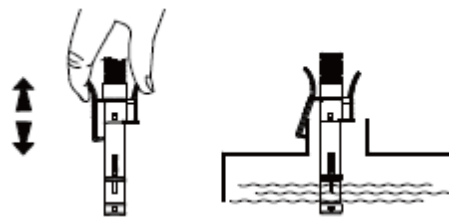

Figure 1
3. Attach the discharge hose to your receiving tank using the clip. Make sure the discharge nozzle is in a vertical position as per Figure 1.